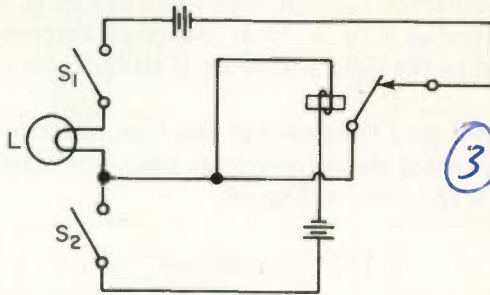

Fig. 36
3. Which of the selections for Question 1 describes the operation of the circuit of Fig. 36?